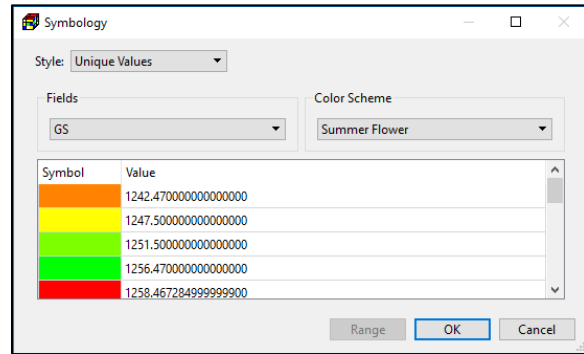

Figure 8. The Symbology dialog box - Unique Values
2. **Unique Values** (Figure 8): PM can assign a color to each unique value within a selected value field. For example, if a shapefile were to have a value field for land use, a different color could be selected to represent each type of land use (i.e. residential, commercial, agricultural, etc.).